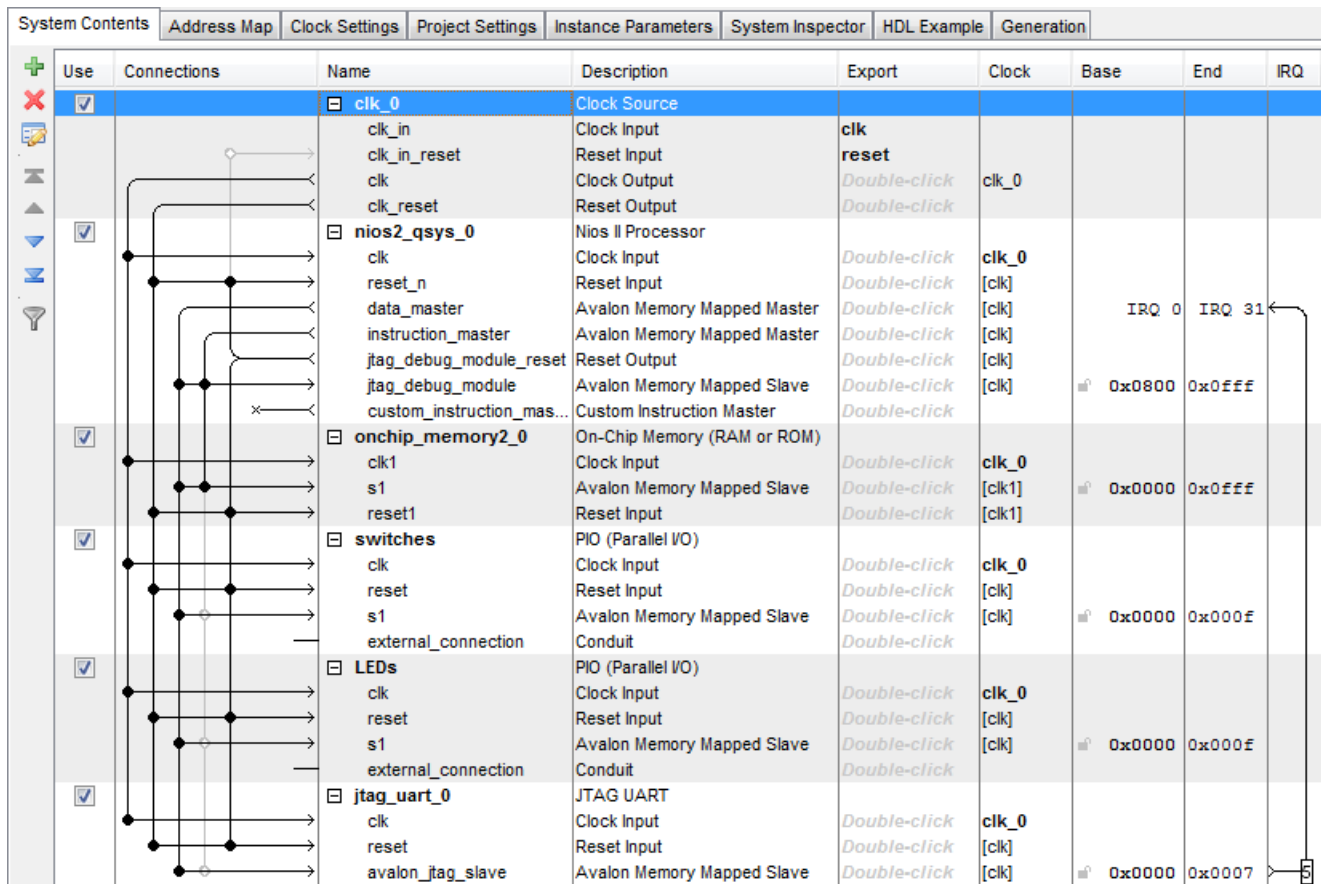

Figure 16. The system with all components appropriately named.
- Note that the Qsys tool automatically chooses names for the various components. The names are not necessarily descriptive enough to be easily associated with the target design, but they can be changed. In Figure 2, we use the names Switches and LEDs for the parallel input and output interfaces, respectively. These names can be used in the implemented system. Right-click on the pio_0 name and then select **Rename**. Change the name to *switches*. Similarly, change pio_1 to *LEDs*. Figure 16 shows the system with name changes that we made for all components.